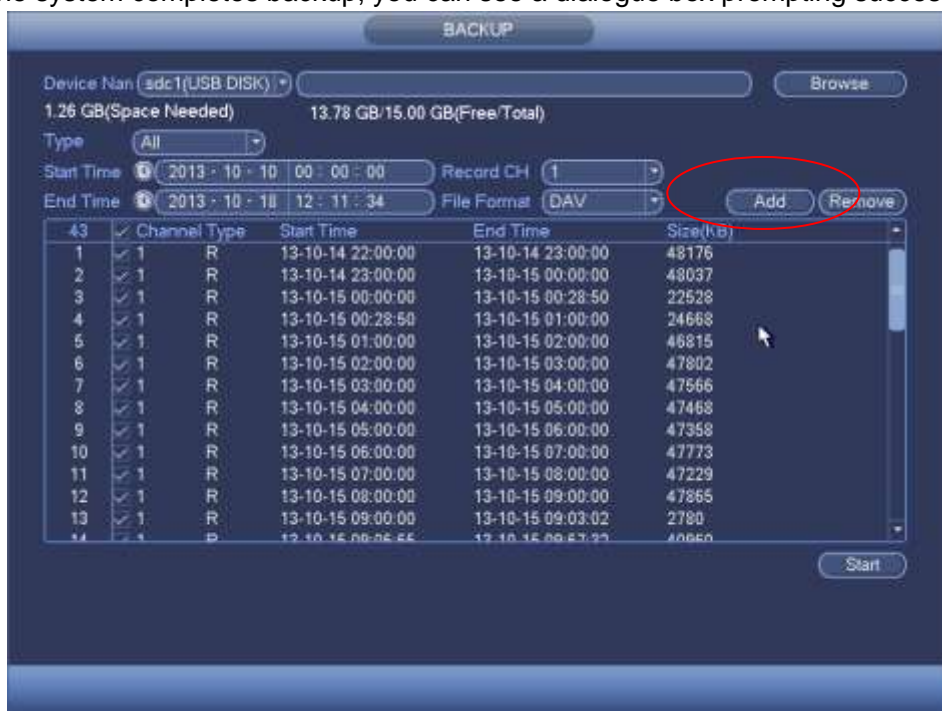

Figure 4-224
- d) Click add button, system begins search. All matched files are listed below. System automatically calculates the capacity needed and remained. See Figure 4-224.